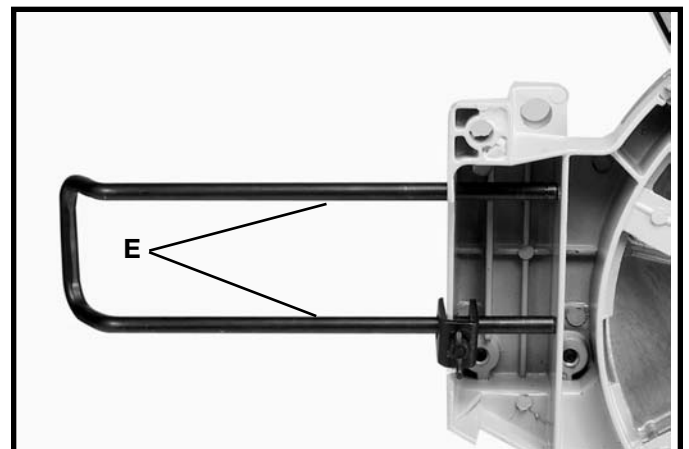

Fig. 10
3. Attach the left hand table extension (E) Fig. 10 in the same manner.